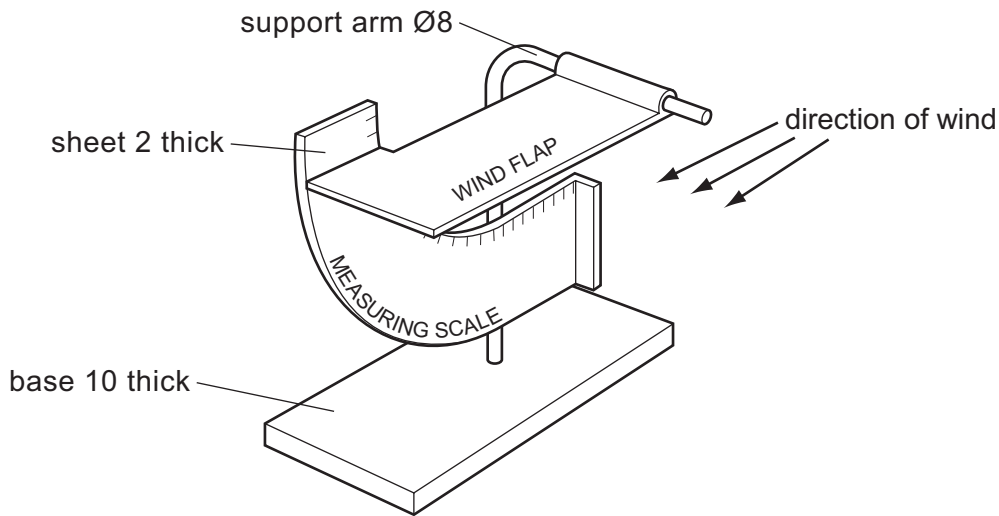

Fig. 8
- 12 Fig. 8 shows a wind speed indicator for use in school.